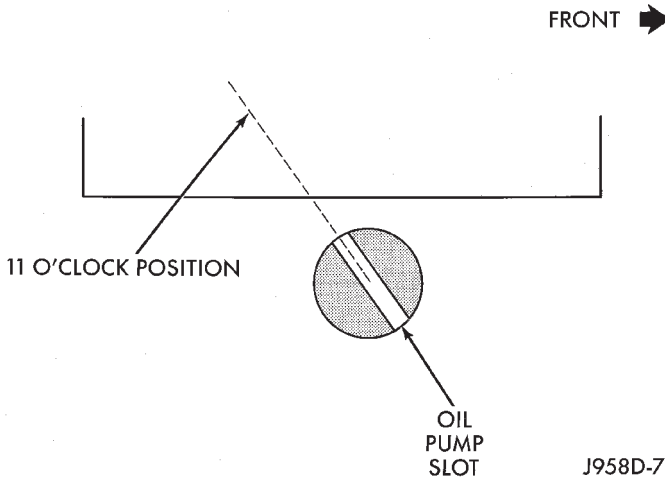

Fig. 39 Slot At 11 O'clock Position—4.0L Engine
- (8) Remove distributor holddown bolt and clamp.
- (9) Remove distributor from engine by slowly lifting straight up.
- (10) Note that rotor will rotate slightly in a counterclockwise direction while lifting up the distributor. The oil pump gear will also rotate slightly in a counterclockwise direction while lifting up the distributor. This is due to the helical cut gears on distributor and camshaft.
(11) Note removed position of rotor during distributor removal. During installation, this will be referred to as the Pre-position.
(12) Observe slot in oil pump gear through hole on side of engine. It should be slightly before (counterclockwise of) the 11 o'clock position (Fig. 39).
(13) Remove and discard old distributor-to-engine block gasket.
(1) If engine crankshaft has been rotated after distributor removal, cylinder number 1 must be returned to its proper firing stroke. Refer to previous REMOVAL Step 5 and Step 6. These steps must be done before installing distributor.
(2) Check position of slot on oil pump gear. It should be just slightly before (counterclockwise of) the 11 o'clock position (Fig. 39). If not, place a flat blade screwdriver into oil pump gear and rotate it into proper position.
(3) Factory replacement distributors are equipped with a plastic alignment pin already installed (Fig.